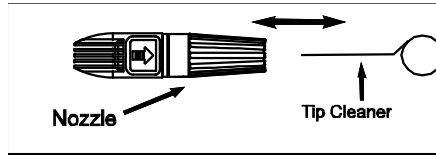

Figure 5 - Insert tip cleaner in nozzle hole and move back and forth until debris is dislodged
- Using included tip cleaner, or an unfolded paper clip, insert wire into the nozzle hole and move back and forth until debris is dislodged. (See Figure 5.)